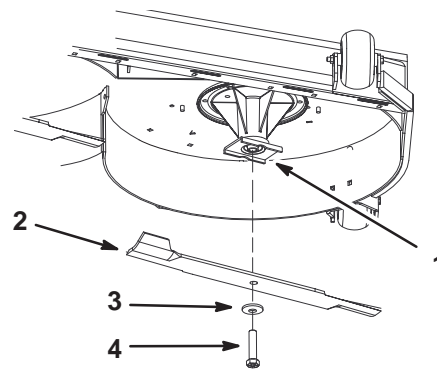

Figure 7
**Important** The sail part of the blade (i.e., the turned up section) must face the inside of the mower (Fig. 7).
1. Install the new blades to the spindles with a washer and blade bolt (Fig. 7).